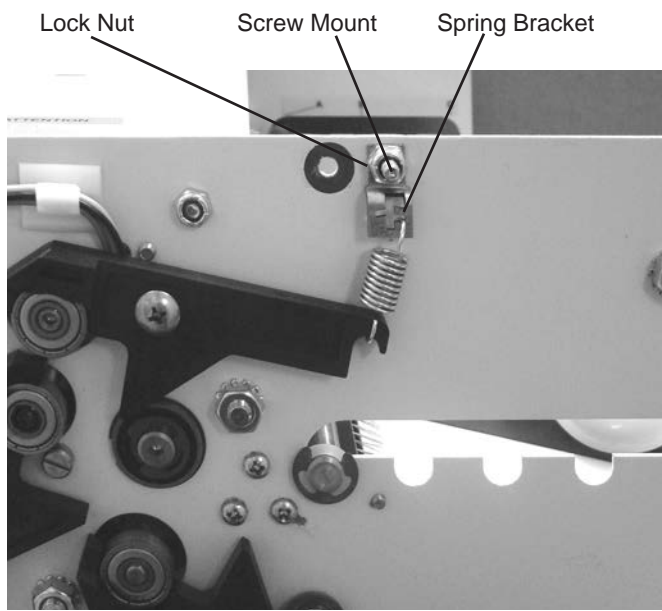

Fig. 22a
4. Remove the lock nut (Fig. 22a) holding the spring bracket (Fig. 22a) in place.
5. Remove the spring bracket from the screw mount (Fig. 22a) and the spring.